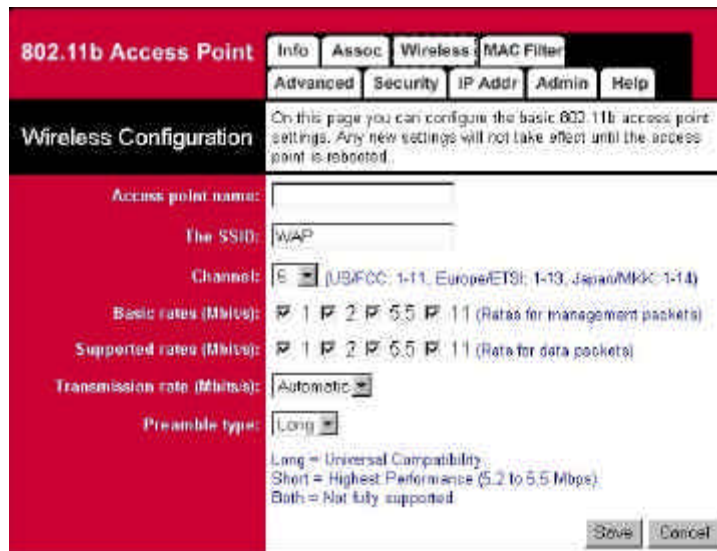

Figure 4.3 Wireless Configuration Screen
7. Click the Wireless tab. The Wireless Configuration screen appears (Figure 4.3).